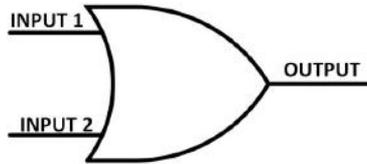

Figure 7-4. The OR Logic Gate circuit symbol
Just like the other logic gates discussed in Chapter 5 and Chapter 6, the OR Logic Gate has a special circuit symbol as well, shown in Figure 7-4. The truth table (TT) shows the logic gate operation. Figure 7-5 is an OR Logic Gate TT.